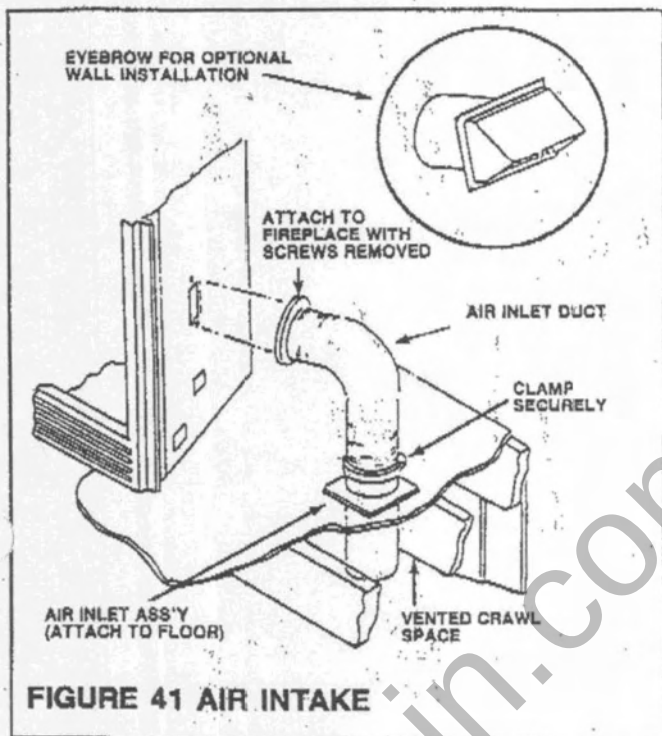

FIGURE 41 AIR INTAKE
- Utilization of outside air is mandatory on mobile home installations. (See Figure 41) for proper installation.